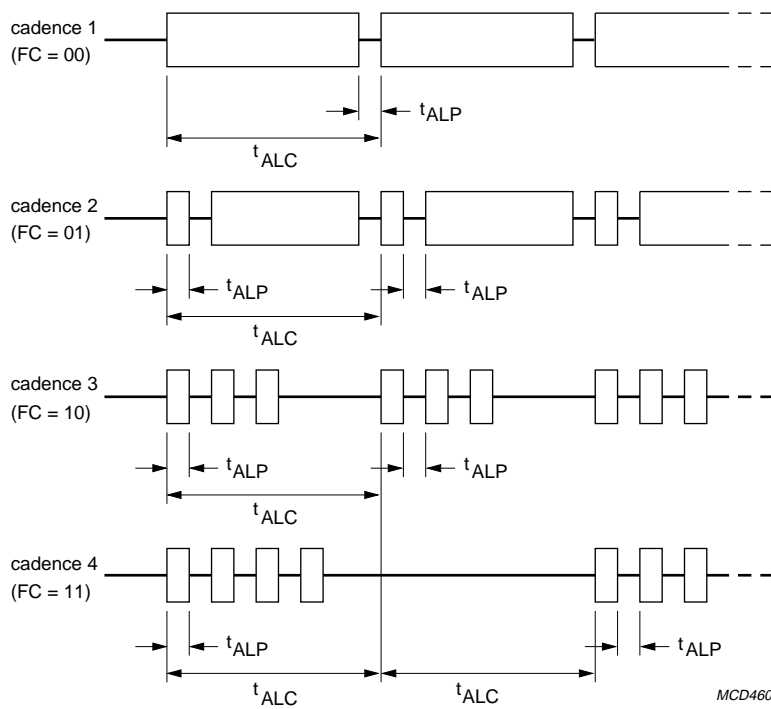

Fig.9 Call alert cadences.
The call alert cadence is modulated according to the two function bits (FC) in the received address codeword, see Fig.9.